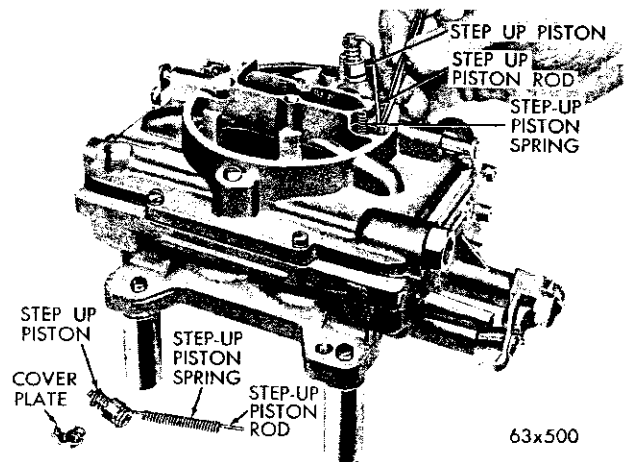

Fig. 38—Removing or Installing the Step-Up Pistons and Rods
(5) Lift off the plates and slide the step-up pistons and rods out of the air horn, as shown in Figure 38. Remove the step-up piston springs.